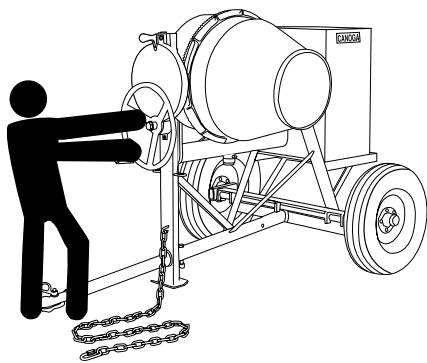

Fig 12. Mixing Drum Positioning
1. To position the drum, make sure the mixer is placed on firm level ground, then pull up on the dump latch (Figure 12) and turn the hand wheel until the drum is at the desired position. Once the drum is at the desired position, pull down on the dump latch to lock the drum in position.